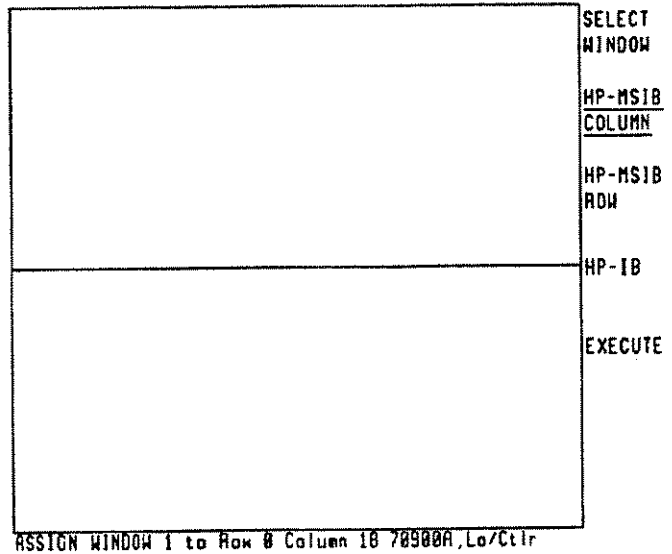

Figure 2-21. Building the First Window
- Press **HP-MSIB COLUMN** and turn the knob until the bottom line on the screen shows that an HP 70900B Local Oscillator module has been found, as in Figure 2-21 (the factory default address is 0,18).